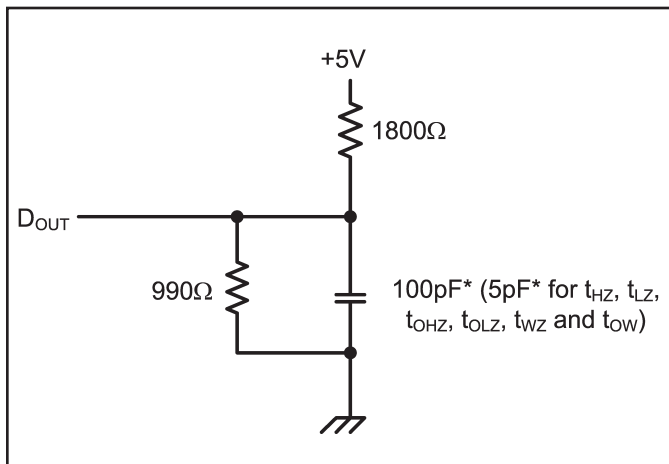

Figure 1. Output Load
- change, with loading as specified in Figure 1. This parameter is sampled and not 100% tested.
Output Load	See Figures 1 and 2